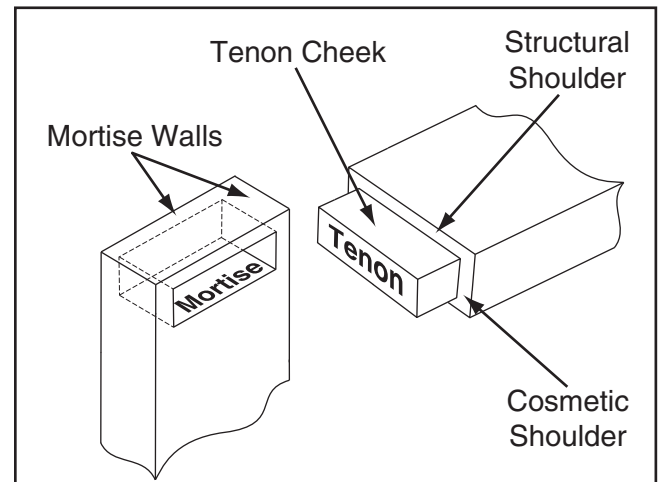

Figure 18. Illustration of typical basic mortise and tenon.
Your tenoning jig is designed to make tenon cheek cuts only. Generally, cheek cuts are made before the shoulder cuts, which are then made without using the jig (see **Figure 18**).
2. Select stock for your mortise and tenon joint, then draw the cutting lines, as shown in **Figures 18–19**.